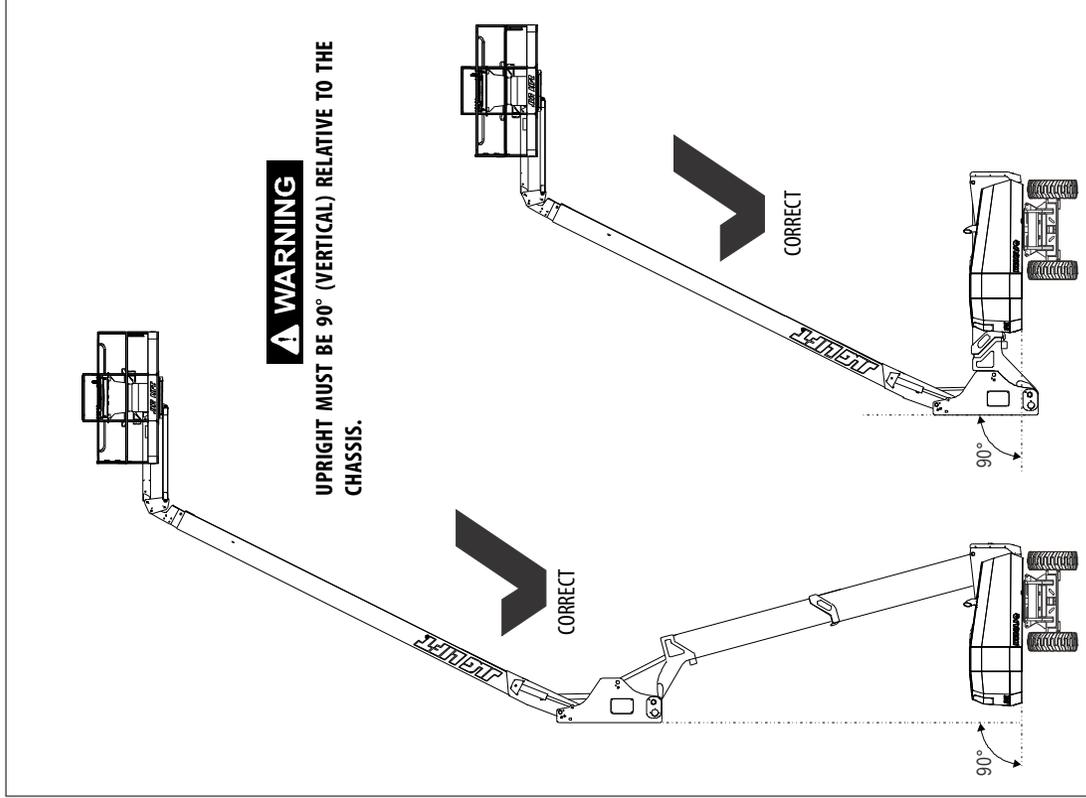
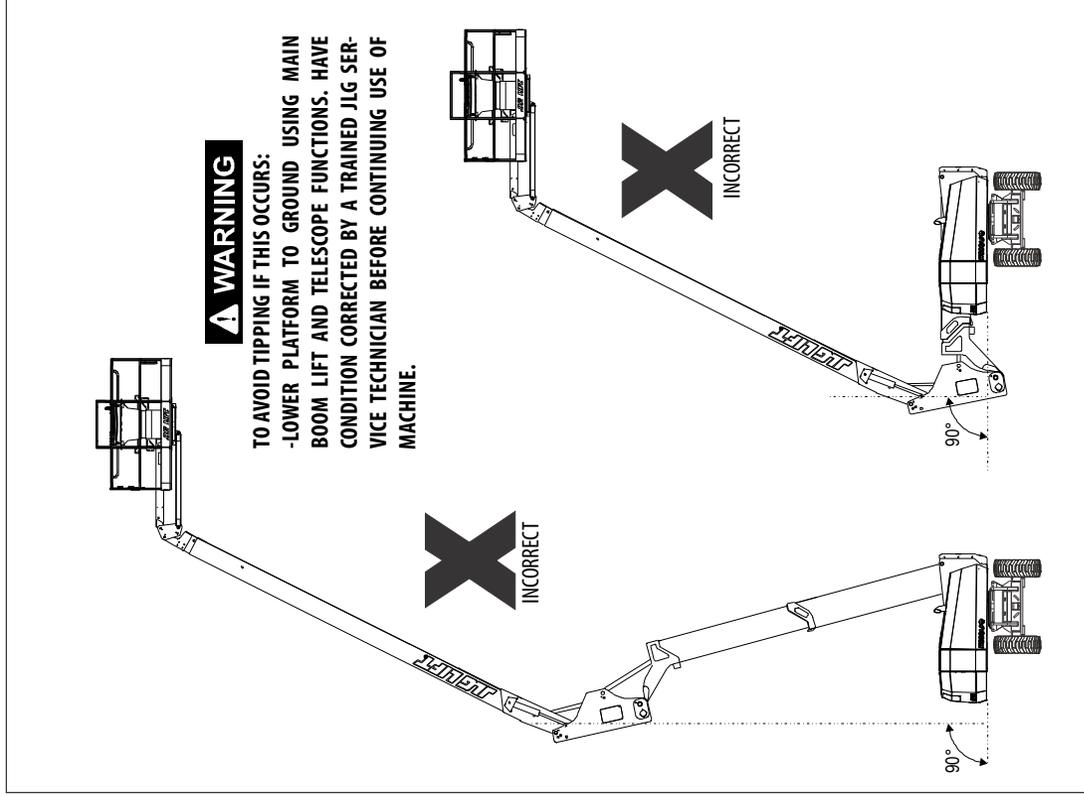

Figure 2-7. Boom Upright Positioning - Correct
Figure 2-8. Boom Upright Positioning - Incorrect
- 17.** Upright - In vertical position, relative to the chassis. Refer to Figure 2-7. and Figure 2-8. If out of alignment, do not use machine until the upright has been synchronized in accordance with Section 4.16.
- c. Raise the tower base boom to approximately 40 degrees, then lower the tower boom back to the below horizontal position. While raising and lowering the tower boom assembly, observe the position of the upright. Ensure that the upright remains vertical relative to the chassis. Refer to Figure 2-7. and Figure 2-8.